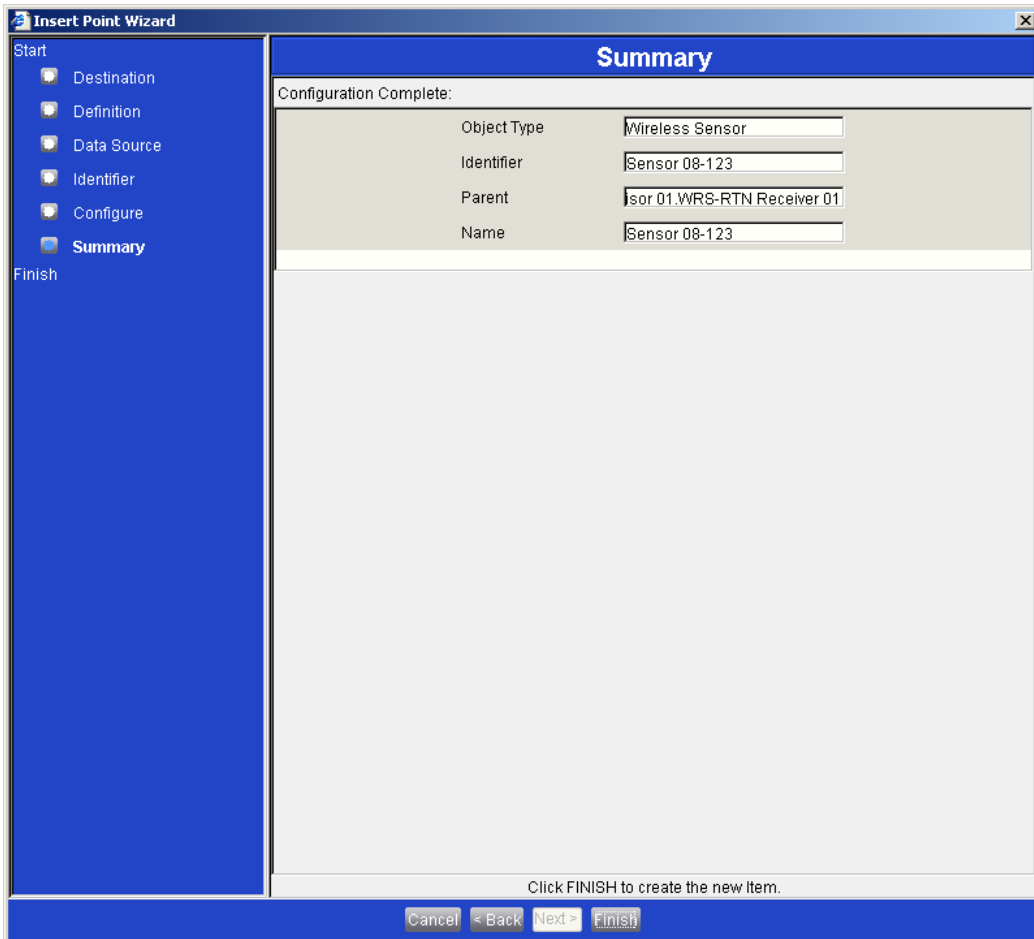

Figure 52: Insert Point Wizard - Summary Screen
12. Review the **Insert Point Wizard - Summary** screen values (Figure 52) and then click one of the following: